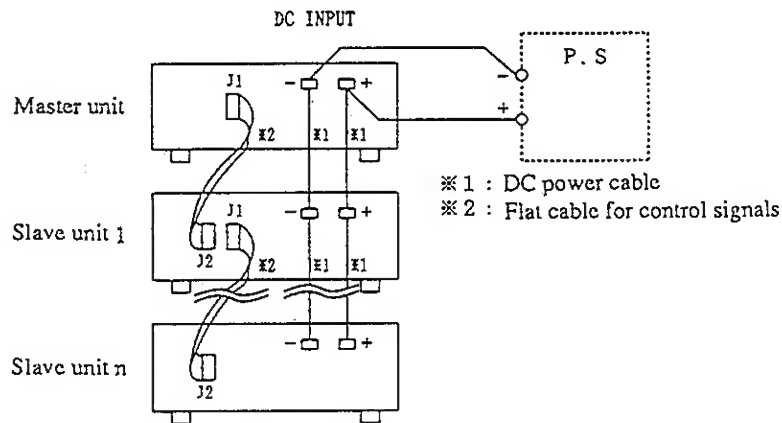

Figure 3.8-1
For a larger load current or power, you can operate a multiple number of Electronic Loads in parallel and control them in a master/slave mode as shown in Figure 3.8-1. The control lines of the units can be readily connected by using flat cables which have MIL-type connectors, providing a convenient means to increase the number of units.
- 2) Connect the DC input terminals of the master unit and slave units in parallel as shown in Figure 3.8-1.
- 3) As shown in Figure 3.8-1, connect J1 of the master unit to that of slave unit 1 with a flat cable, connect J1 of slave unit 1 to that of slave unit 2, connect J1 of slave unit 2 to that of slave unit 3, and so forth.